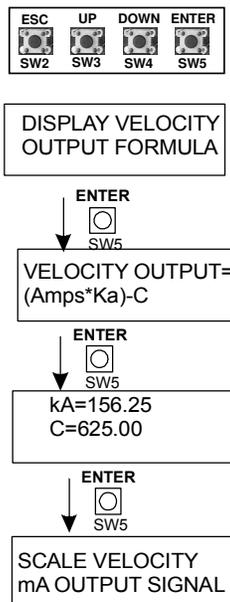

Figure 20: Display Velocity Output Formula Submenu
- Figure 20 SCALE VELOCITY mA OUTPUT SIGNAL